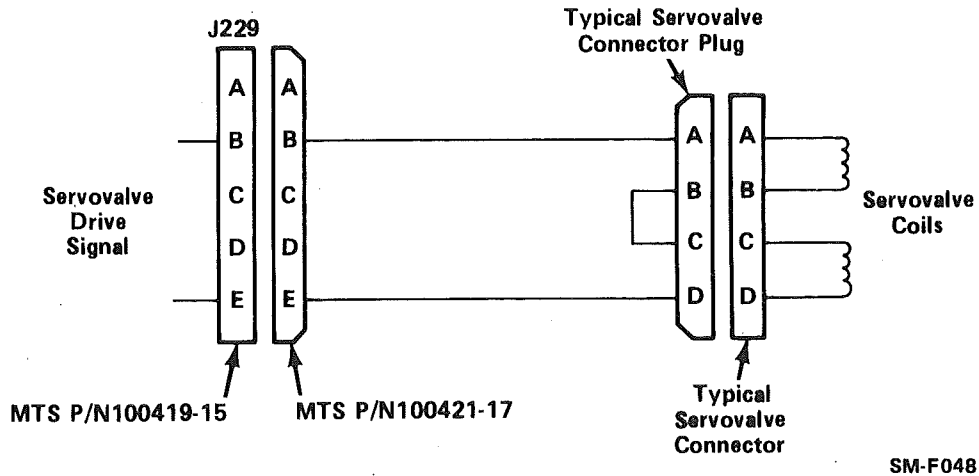

Figure 4-4. Recommended Servo valve Cable
Servo valve connections are made to cable receptacle J229 on the controller rear panel. Figure 4-4 shows the recommended servo valve cable. As shown in figure 4-4, the controller drives the two servo valve coils in series. The jumper wire between pins B and C on the servo valve plug completes the series connection.
3. Obtain or construct a second servovalve cable (refer to figure 4-4) to connect the second servovalve to the controller.
1. Obtain or construct a servovalve cable as shown in figure 4-4.